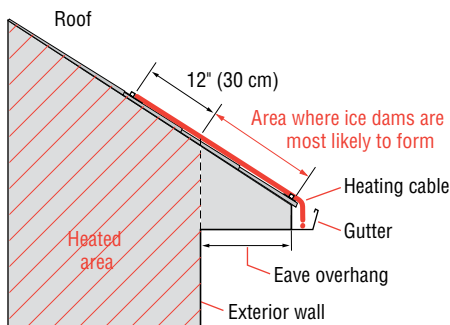

Figure 4: Side view of roof with IceStop system
- Run heating cable up the roof until it is 12 inches (30 cm) past the exterior wall into the heated area (see Figure 4).
- Run the heating cable up the seam until it is 12" (30 cm) past the exterior wall and into a heated area, Figure 4 on page 15.